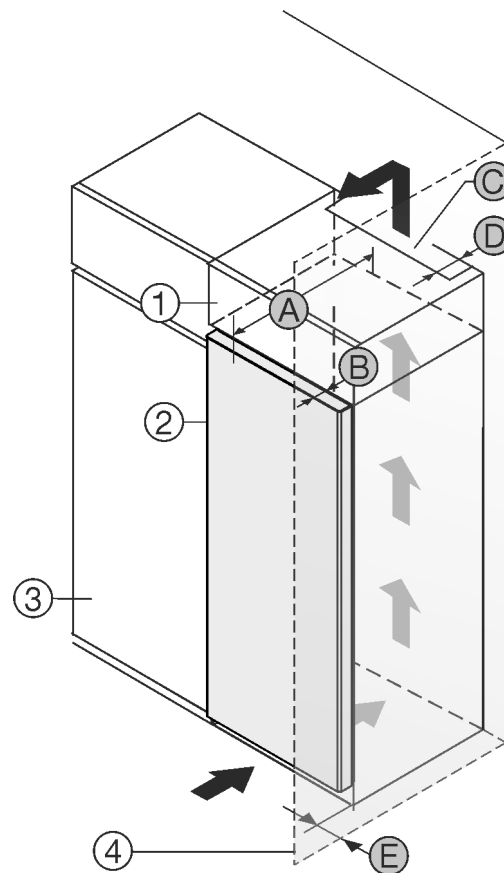

Fig. 1
You can place the appliance directly beside the kitchen cabinet Fig. 1 (3).
There must be a ventilation shaft at the depth Fig. 1 (D) of the back of the top cupboard over the entire width of the top cupboard.*
The ventilation cross-section Fig. 1 (C) must be maintained under the ceiling.*
If the appliance is set up with the hinges next to a wall Fig. 1 (4), the distance between the appliance and the wall must be at least 13 mm.*
If the appliance is set up with the hinges next to a wall Fig. 1 (4), the distance between the appliance and the wall must be at least 20 mm.*
In order to be able to fully open the door, the appliance must protrude by the depth of the door Fig. 1 (B) from the front of the kitchen cabinet. The appliance may protrude further depending on the depth of the kitchen cabinets Fig. 1 (3) and whether wall spacers are used.*